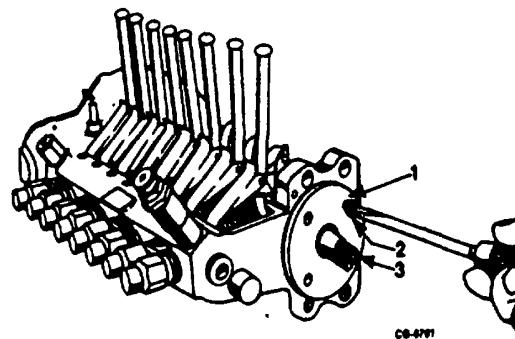

Figure 4. Installing Front Bearing Retainer.
15. Obtain new gasket and install front bearing retainer. Use light lube on gasket. Start all four screws to guide retainer into place, but do not use screws to draw down. Tap retainer into place while turning camshaft to assure alignment (Figure 4). Tighten mounting screw securely.